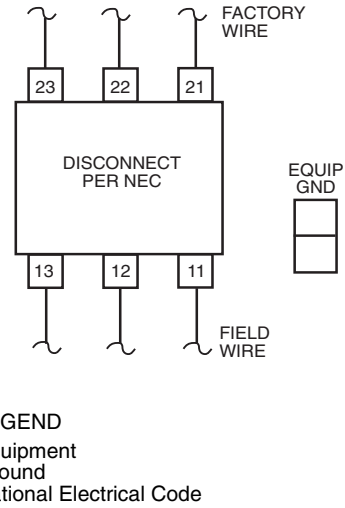

Fig. 46 — Field Power Wiring Connections for Factory-Installed Disconnect
Step 11 — Route Field Wiring — Field power wiring is brought into the unit through the back of the power box near the bottom. Wiring can be brought through the roof curb through field-supplied watertight connections. See Fig. 46.